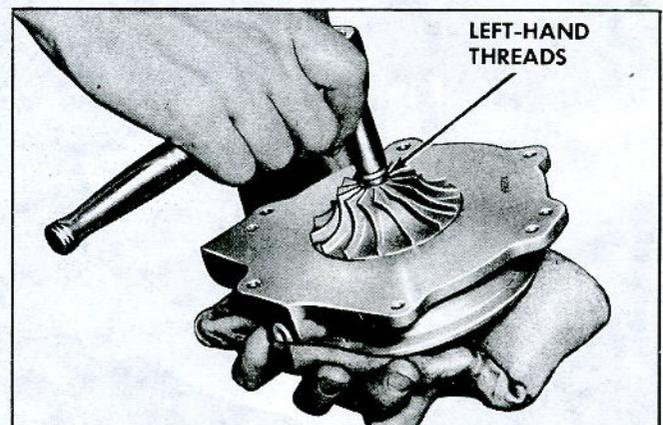

Fig. 40—Removing Impeller Nut
- Hold the turbine wheel blades with a cloth and remove the self-locking nut (LEFT HAND THREADS) from the impeller end of the turbine shaft by turning clockwise (fig. 40), then remove the impeller washer.